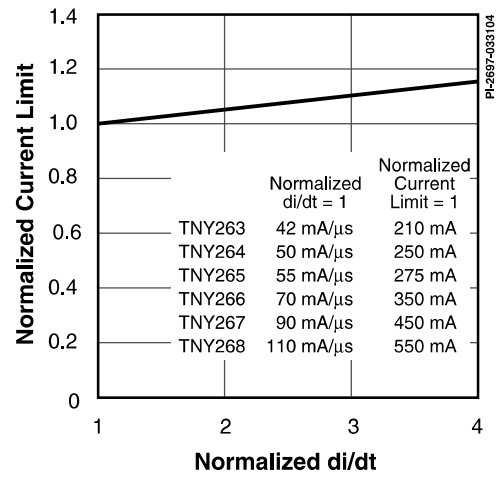

Figure 25. Current Limit vs. di/dt.
- For current limit at other di/dt values, refer to Figure 25.